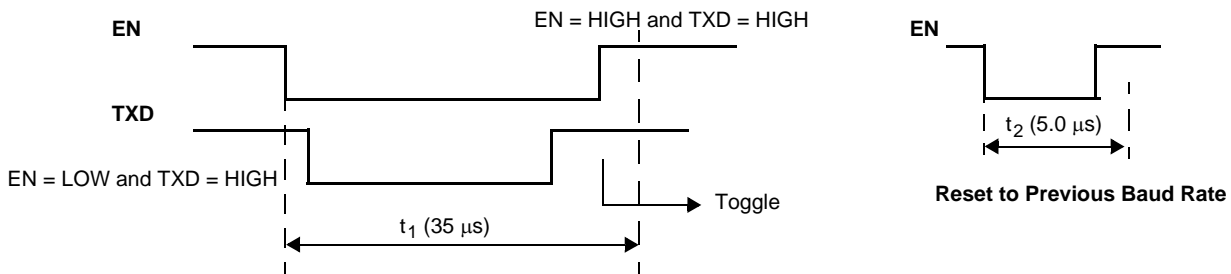

Figure 13. Fast Baud Rate Selection (Toggle Function)
15. See Figure 13, 11.
Fast mode can be selected from either Normal or Slow mode. Fast mode is entered via a special sequence (called toggle function) as follows: TXD and EN pins set Low, then TXD pulled High, and at the EN pin Low-to-High transition, the device enters into the Fast Baud rate. The duration of this sequence must be less than 35 μ s. The toggle function is described in Figure 13. Once in the Fast mode, two different procedures will bring the device back to the previously selected mode (Normal or Slow):
- A glitch on EN where $t_{\text{glitch}} < 5.0 \mu\text{s}$ also resets the device to the previously selected mode (Normal or Slow) (Figure 13).